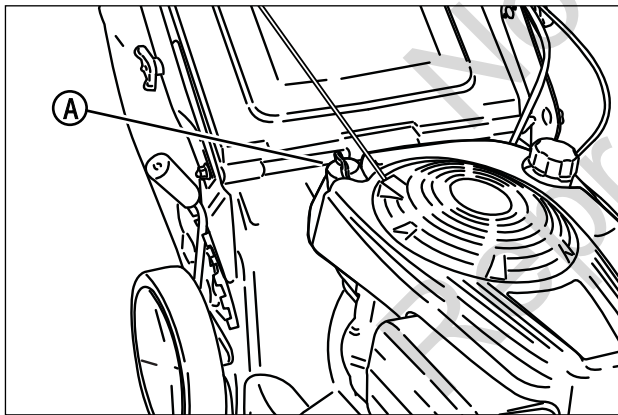

Figure 2: Checking engine oil
4. Check the engine oil (**A, Figure 2**) and add oil as needed to bring the level up to the 'full' mark. Refer to the Engine Owner's Manual for oil specifications.